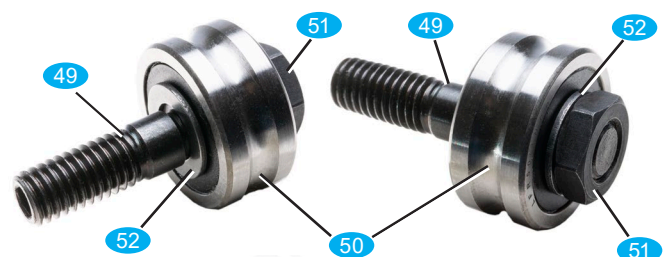

Fig. 1c: Screw on the nut flush with the eccentric bolt
- Screw the nut **51** on the roller side flush with the eccentric bolt **49** (do not tighten, Fig. 1c). Assemble the eccentric roller guides with the hexagon socket on the outside in the upper bores of the portal cheeks. Only loosely tighten the nut **63** on the outside by hand - later the guidance of the Y-axis will be adjusted here and the screw tightened.